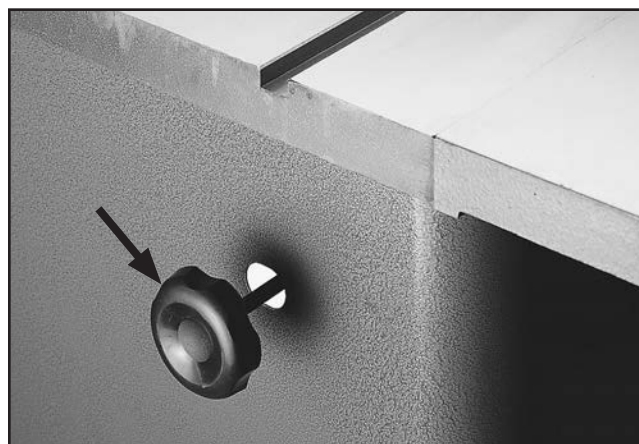

Figure 38. Spindle lock knob.
1. Loosen the spindle lock (see **Figure 38**).